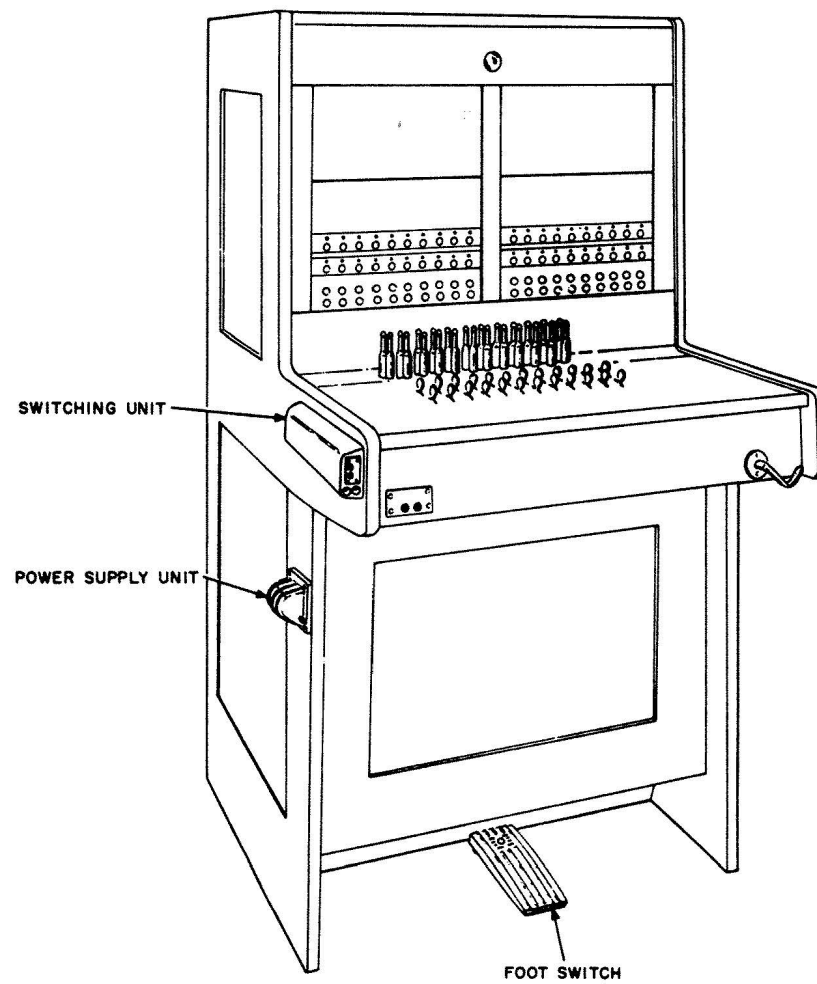

Fig. 2 — 551-Type PBX
3.02 Fig. 2, 3, 4, and 5 show typical mounting locations of equipment for various types of PBX and station equipment.